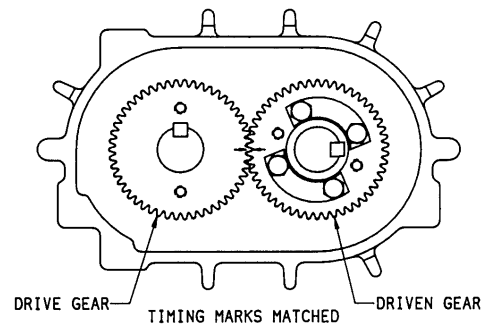
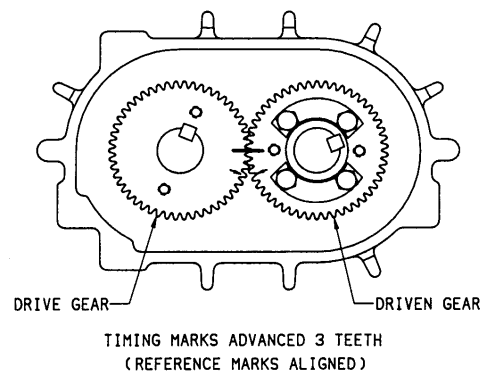

Figure 6A.
Figure 6B.
8. Align timing marks on gears (Figure 6A) Rotate drive gear clockwise approximately three teeth and mark a matching reference line on each gear as shown in Figure 6B. This gear position is necessary so rotors will clear and not jam. Do not allow the gears to move from the matched reference line while pulling. Use a light rocking motion to insure that the lobes have not jammed. Remove driven gear first, and then drive gear.
7. Lubricate shafts and keys and press drive gear (right hand helix) on drive rotor. To install driven gear, align reference marks as shown in Fig. 6B. Tap gear with mallet to start then press the gear until seated. NOTE: All timing gears must be used in sets as they are matched and serially numbered.